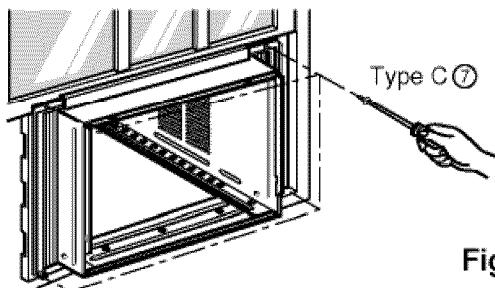

Fig. 6
- 9** Attach each Frame Curtain ① the window sash using screws ⑦ (Type C). (See Fig. 6)